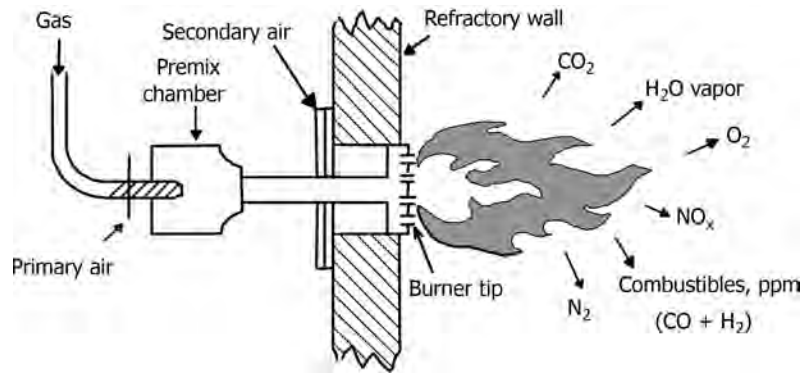

FIGURE 14.12 Premix gas burner.
- Figure 14.12 gives details of a premix gas burner. The pressure of the fuel gas supply is important since low gas pressure degrades performance. The primary air flow should be maximized without lifting the flame off the burner. Most of the air (as primary air) is delivered to the burner along with the fuel. Secondary air is introduced with appropriate controls, based on measurements and controls indicated in the previous paragraphs.